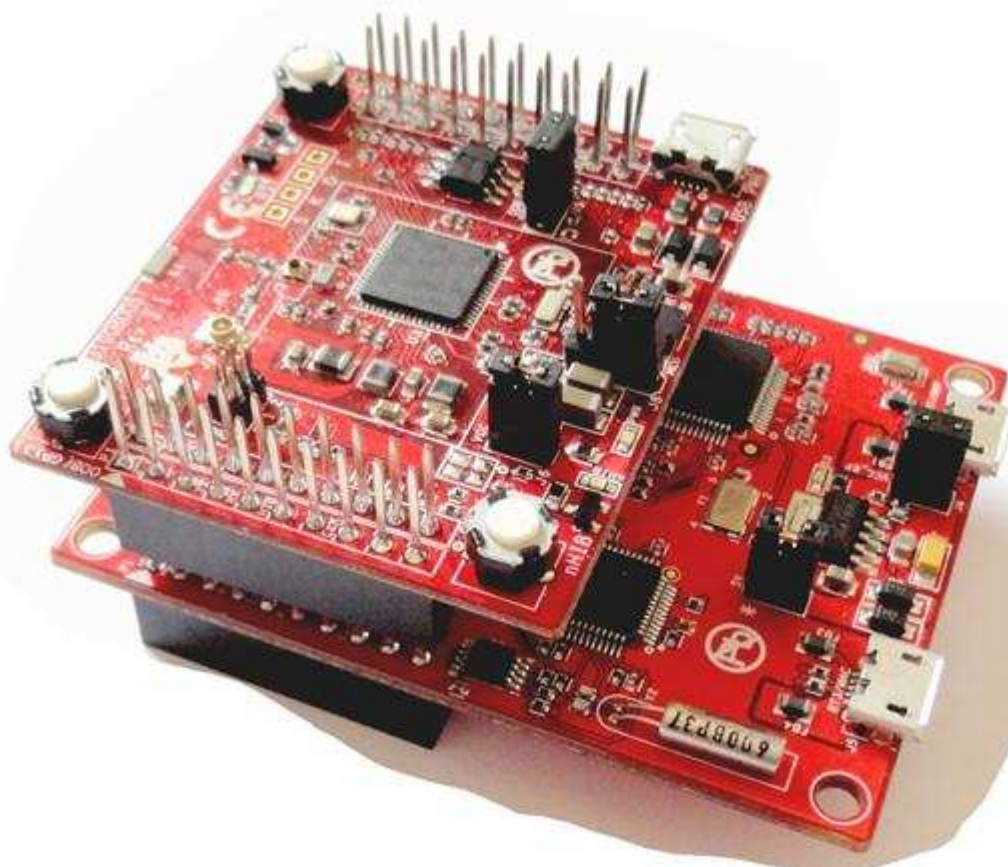

Figure 3. Mounting CC3100 BoosterPack
1. Mount the CC3100 BoosterPack on EMUBOOST board as shown in Figure 3.